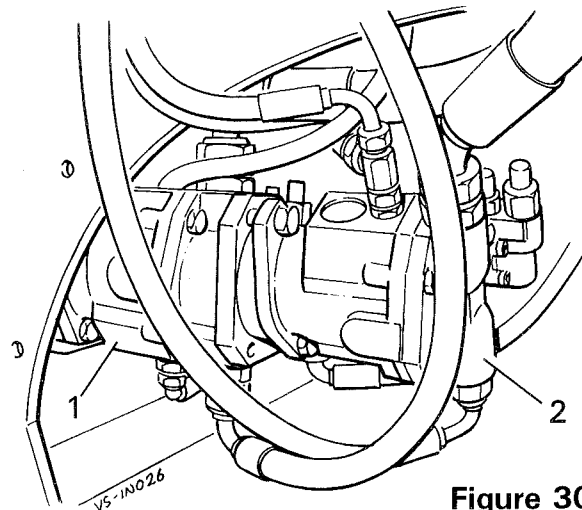
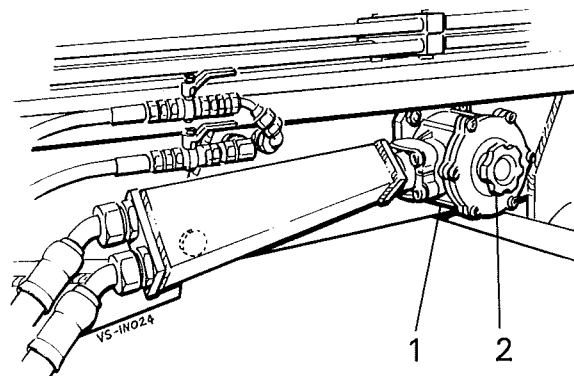

Figure 30
Figure 31
The hydraulic supply for the cleaner unit system is taken from the pump (*item 1, figure 30*). The oil reservoir is integral within the centre chassis beam and has a capacity of 400 litres. The feed into the pump is through the suction filter (*item 1, figure 31*) submerged in the side of the centre beam.
*When the machine is in use, the suction filter knob (item 2, figure 31) must be wound fully in clockwise at all times.*
The hydraulic pump (*item 2, figure 30*) supplies oil for the rotary agitators, sweeping clod fingers, and one other option when fitted. The oil supply is taken from the suction filter (*item 1, figure 31*), and fed through the pressure filter (*item 3, figure 33*) to the secondary proportional load sensing valve bank (*item 3, figure 32*). The LH valve section, fitted with a 25litre spool, controls the rotary agitators. The second valve section controls the sweeping clod fingers. On, off and speed control are provided from the control box. A third proportional valve section can be fitted to provide for an additional option such as powered diablo rollers etc.